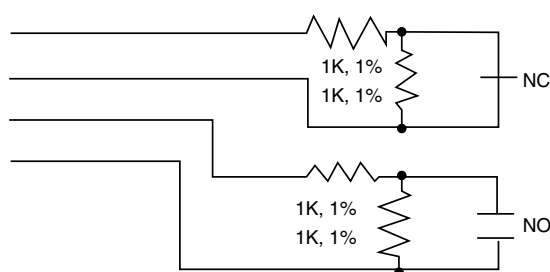

Figure 38: Input Connections: Cisco Physical Access Gateway Input and Reader Modules
- b. (Optional, for supervised input connections only). Install two End-Of-Line (EOL) 1K termination resistors in each supervised input interface (one terminator in each connector). Figure 38 shows the terminator installation for a Normally Closed (NC) and Normally Open (NO) input connection.